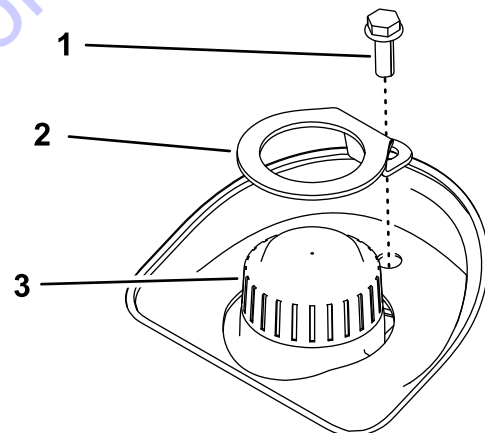

Figure 50
5. If the oil level is low, remove the cap lock and cap from the top of the expansion tank (Figure 50), and add enough of the specified hydraulic fluid to raise it to the proper level.